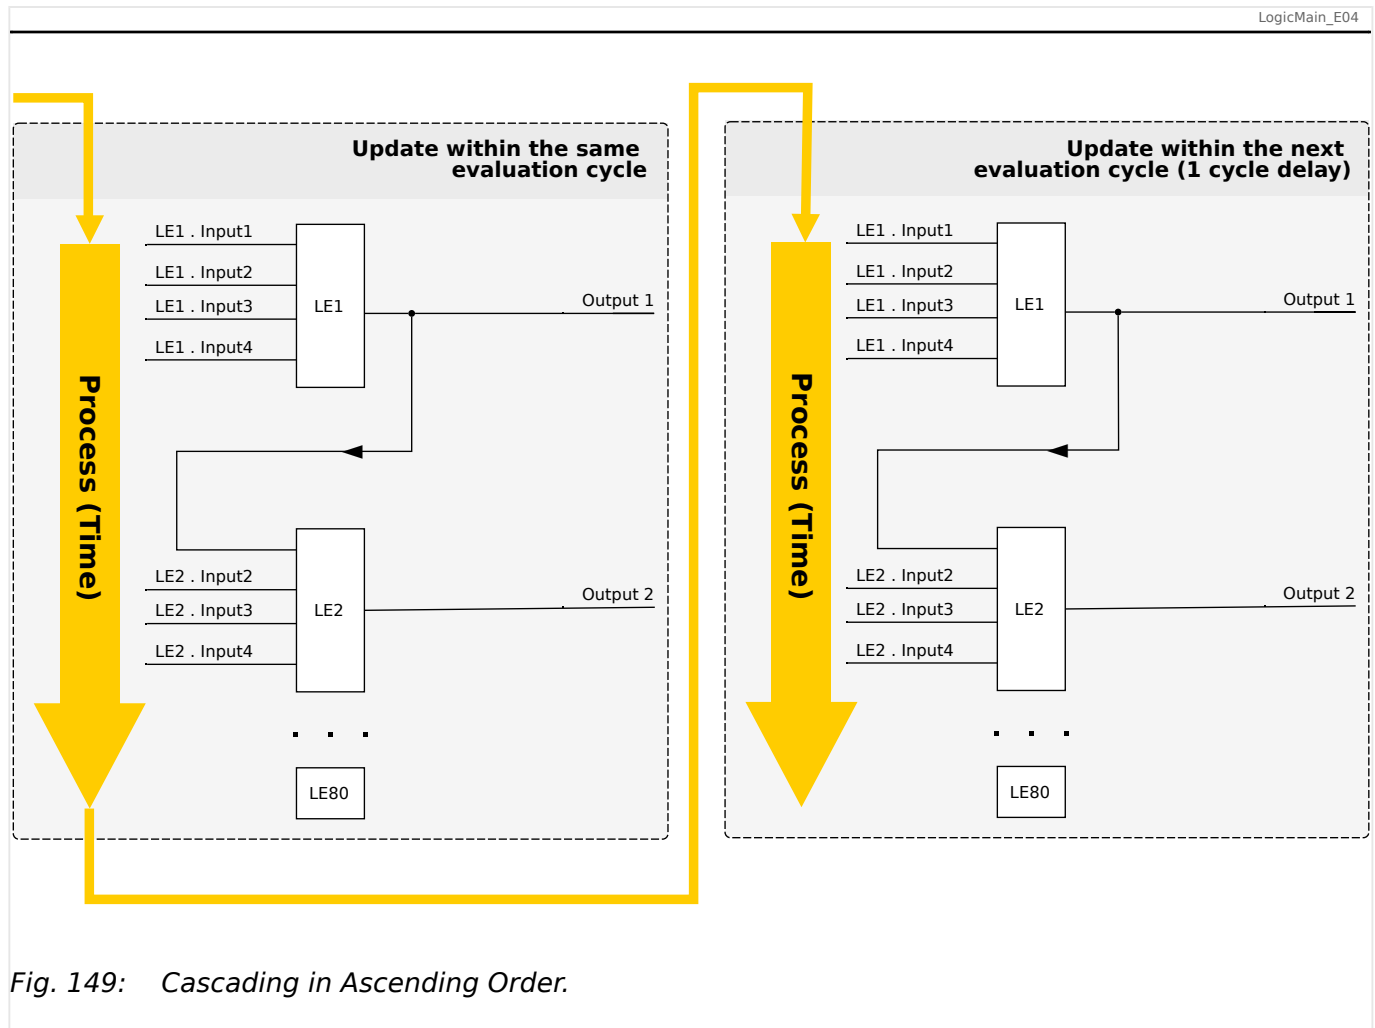
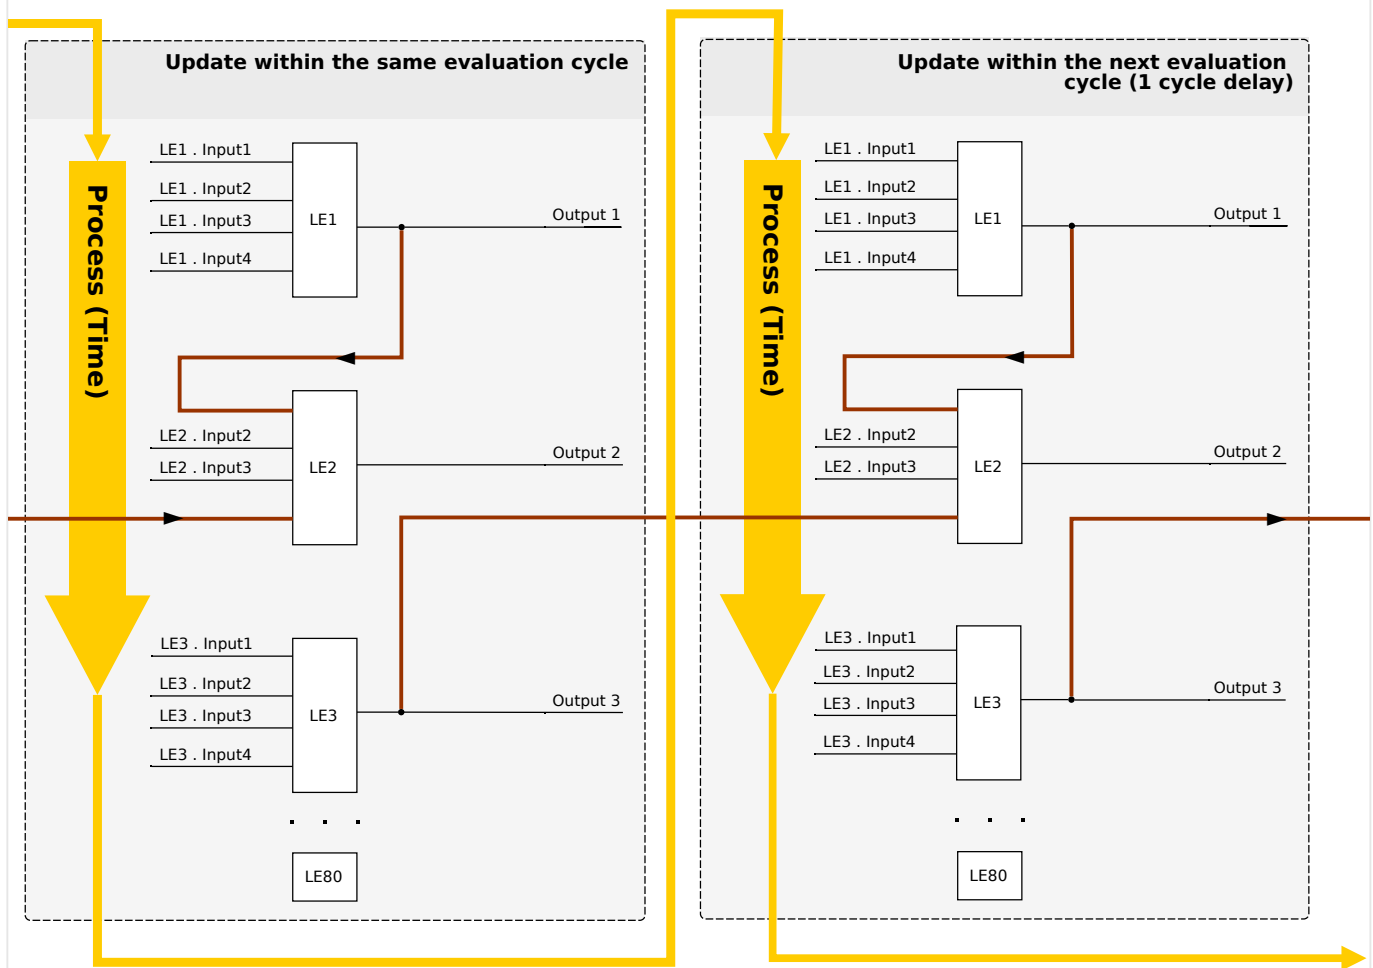

Fig. 149: Cascading in Ascending Order.
Fig. 150: Cascading in Descending Order.
- **Ascending** sequence means that some output is fed into the input of a logic equation with **higher** number. For instance, diagram  Fig. 149 below shows an example where the result of Logic Equation LE1 is used as an input of Logic Equation LE2.
- **Descending** sequence means that some output is fed into the input of a logic equation with **lower** number. For instance, diagram  Fig. 150 shows an example where the result of Logic Equation LE3 is used as an input of Logic Equation LE2.
Both ascending and descending sequences may be used and combined one with the other, with no immediate difference. However, due to the evaluation of all equations in ascending order the actual run-time values that are fed in at the input of an equation will have a different “age”, as is shown in  Fig. 149 and  Fig. 150 below.
In the example shown in  Fig. 150 above, “Logic Equation 2” uses the output states of two other equations, “Logic Equation 1” and “Logic Equation 3”. The result of “Logic Equation 1” is used in ascending order and has therefore been evaluated within the same process cycle. The result of “Logic Equation 3” is used in descending order and has therefore been evaluated in the previous process cycle.